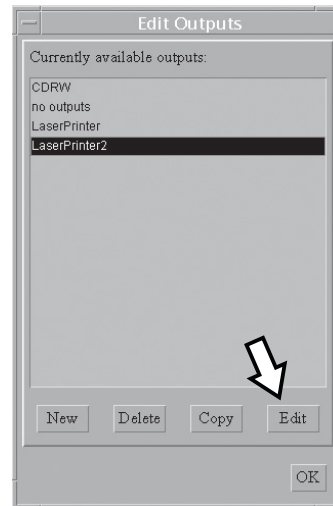

Figure 3-53: Edit Outputs Dialog Box
1. Select **Edit > Outputs**, and click **New** to add a new Output (Figure 3-53).